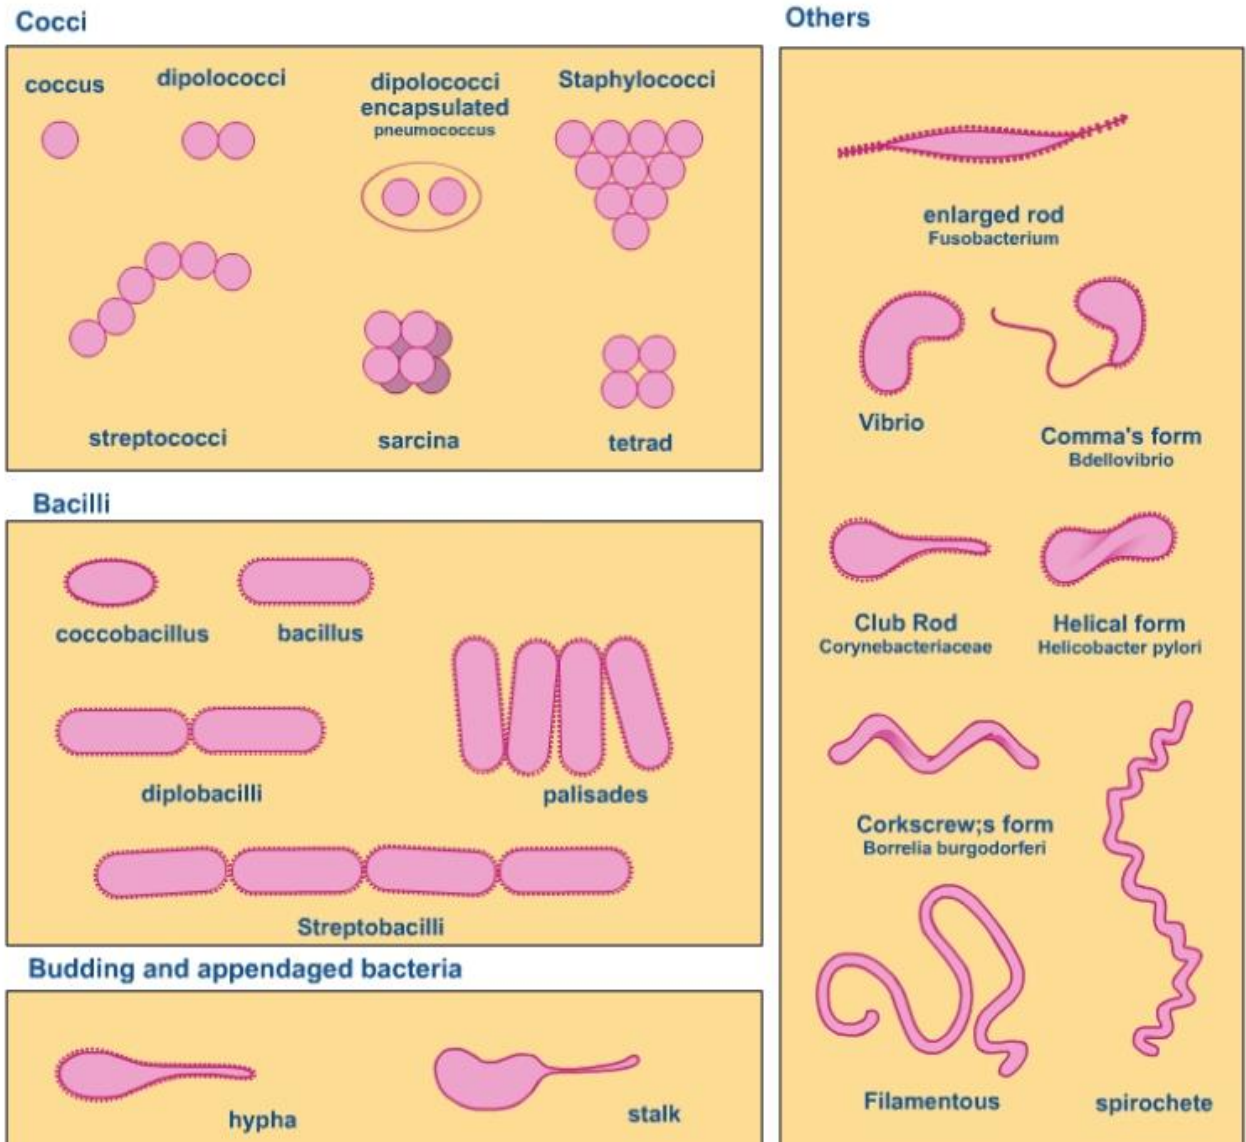

Fig1: Different bacterial morphology
8. Record the shape, arrangement, and approximate size of the organisms. (see figure1).